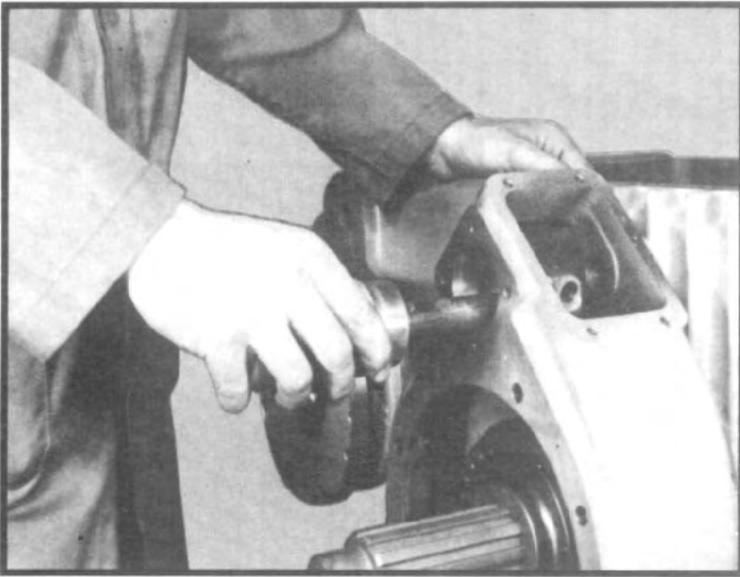

Fig. 13
10. Withdraw shift piston and shift shaft as a unit. (See fig. 13.)